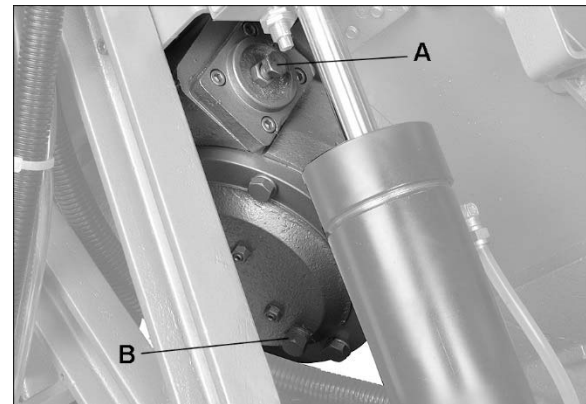

Figure 10-1
1. Remove drain plug (A, Figure 10-1) and allow lubricant to drain completely. Reinstall drain plug.
2. Remove oil fill plug (B) and fill gearbox with 850mL (0.9 qt.) of Mobil™ SHC 634 gearbox oil, or equivalent. Replace fill plug.